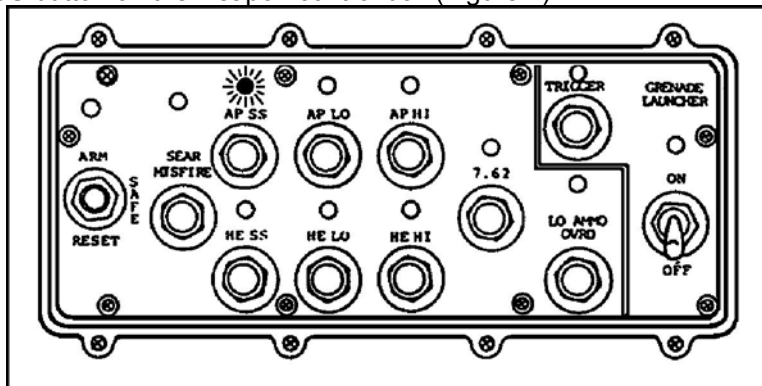

Figure 2. AP SS button and indicator light.
6. Press the AP SS button on the weapon control box (Figure 2).